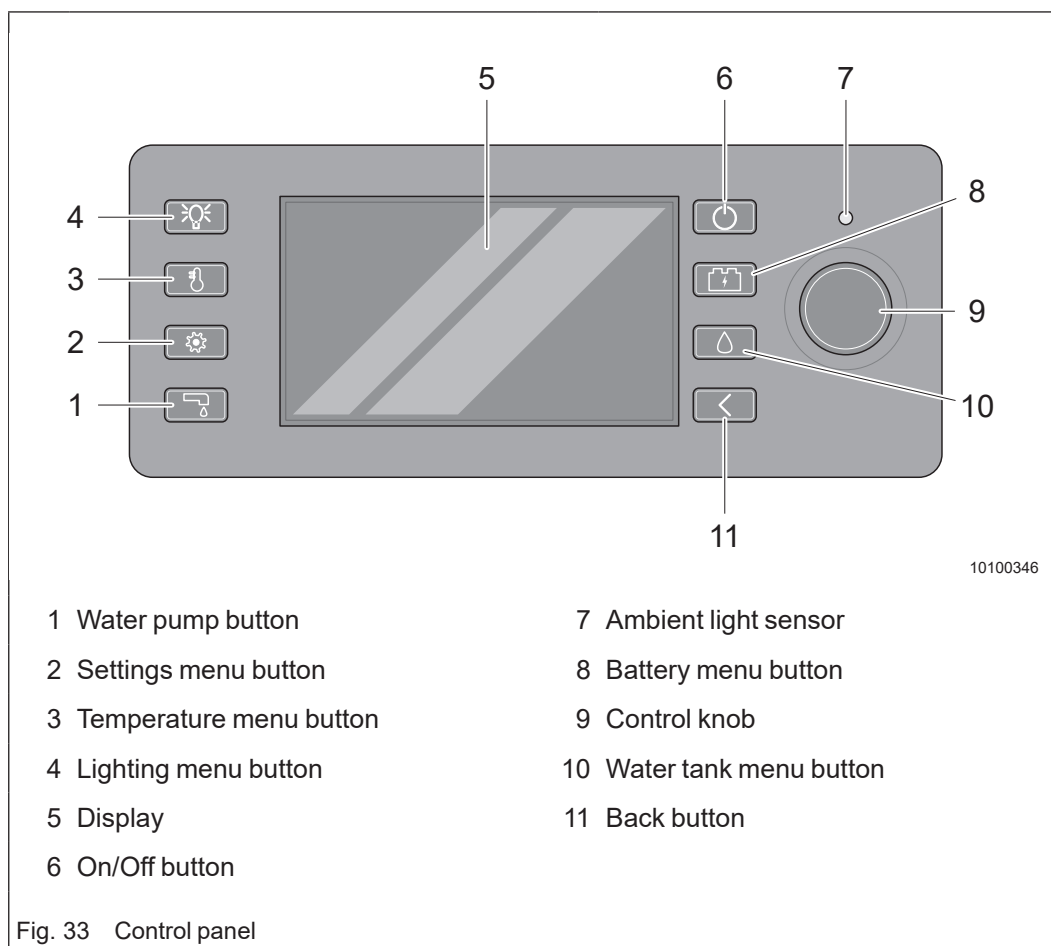

Fig. 33 Control panel
- ➔ Briefly press the On/Off button (Fig. 33/6).
- ➔ Briefly press the On/Off button (Fig. 33/6). The standby mode is activated.
- ➔ Press the water pump button (Fig. 33/1). The water pump is either switched on or off. The operating state of the water pump is indicated on the display.
- ➔ Press the settings menu button (Fig. 33/2). The settings menu will open. You can use this menu to change various settings (such as the background lighting, time settings etc.). Use the control knob (Fig. 33/9) to navigate through the menus.
- ➔ Press the temperature menu button (Fig. 33/3). The temperature menu will open. This menu displays the temperature inside and outside the vehicle. If the vehicle has a floor heating, this menu will also display the floor heating settings.
- ➔ Press the lighting menu button (Fig. 33/4). The lighting menu will open. Use the control knob (Fig. 33/9) to change the settings for the interior and exterior lighting.
- ➔ Press the battery menu button (Fig. 33/8). The battery menu will open. This menu displays the current state of charge for the living area battery and the vehicle battery. Use the control knob (Fig. 33/9) to access further information.
- ➔ Press the water tank menu button (Fig. 33/10). The water tank menu will open. This menu displays the current filling levels of the fresh water tank and the waste water tank.
- ➔ Pressing the back button (Fig. 33/11) will take you back to the previous screen.